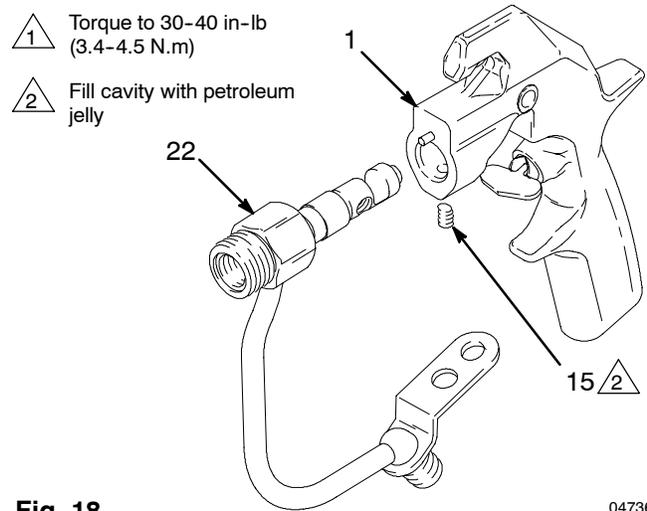

Fig. 18 04736
6. Push the fluid housing (22) onto the gun body (1) until fully seated. Tighten the setscrew (15) to 30-40 in-lb (3.4-4.5 N.m). Fill the setscrew cavity with petroleum jelly. See Fig. 18.